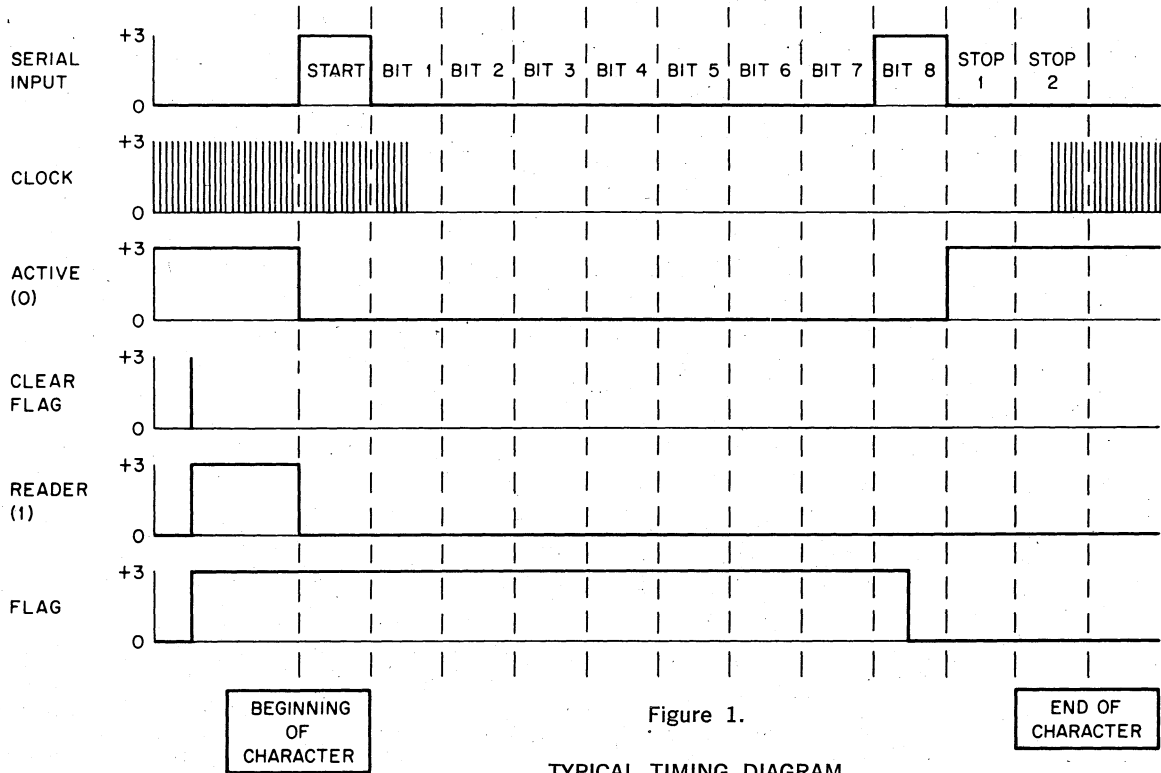

Figure 1.
The M706 Teletype Receiver is a serial-to-parallel teletype code converter self contained on a double height module. This module includes all of the serial-to-parallel conversion, buffering, gating, and timing (excluding only an external clock necessary to transfer information in an asynchronous manner between a serial data line or teletype device and a parallel binary device). Either a 5-bit serial character consisting of 7.0, 7.5, or 8.0 units or an 8-bit serial character of 10.0, 10.5, or 11.0 units can be assembled into parallel form by the M706 through the use of different pin connections on the module. When conversion is complete, the start and stop bits accompanying the serial character are removed. The serial character is expected to be received with the start bit first, followed by bits 1 through 8 in that order, and completed by the stop bits. Coincident with reception of the center of bit eight, the Flag output goes low indicating that a new character is ready for transmission into the parallel device. The parallel data is available at the Bit 1 through Bit 8 outputs until the beginning of the start bit of a new serial character as received on the serial input. See the timing diagram of Figure 1 for additional information.
**Read Buffer:** A high level or positive pulse at this input while the code select inputs are all high will transfer the state of the shift register to outputs Bit 1 through Bit 8. Final parallel character data can be read by this input as soon as the Flag output goes to ground. Output data will be available a maximum of 100 nsec after the rising edge of this input. See the timing diagram of Figure 1 for additional information.
**Active (0):** This output goes low at the beginning of the start bit of each received character and returns high at the completion of reception of bit 8 for an 8-bit character or of bit 5 for a 5-bit character. Since this signal uses from ground to +3 volts one-half bit time after the Flag output goes to ground, it can be used to clear the flag through Clear Flag 2 input while the Flag Output after being inverted can strobe parallel data out when connected to Read Buffer.